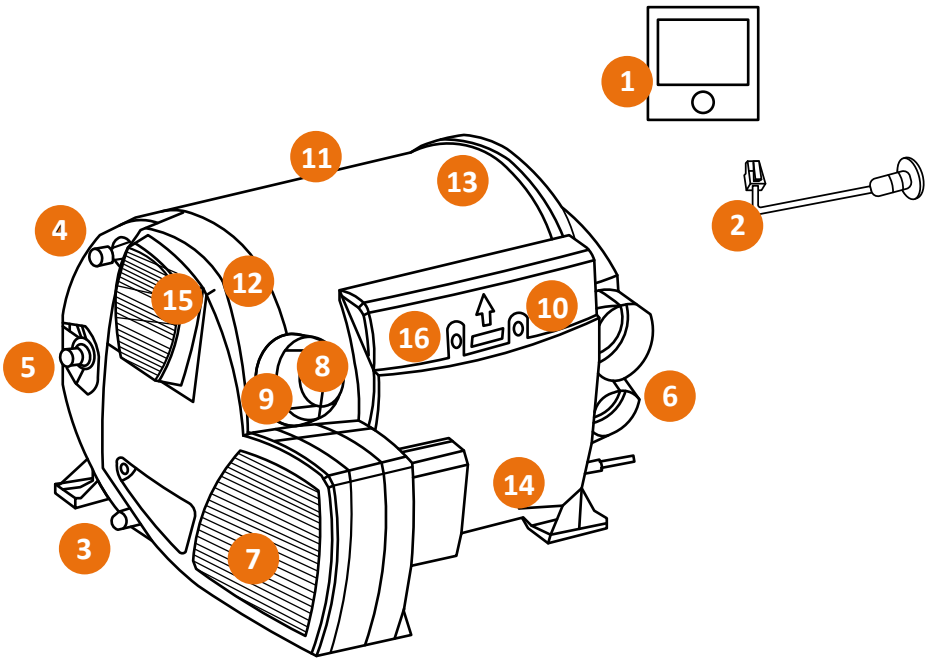

Figure 2
**Notes on manual:** The following information will refer to the exploded diagrams, or figures as (F:P), where 'F' donates the figure, and 'P' donates the number in that figure. For example (2:4) would mean 'Figure 2: Number 4'.
Sizes in **Figures 2 and 3** with a \* refer to the minimum size.